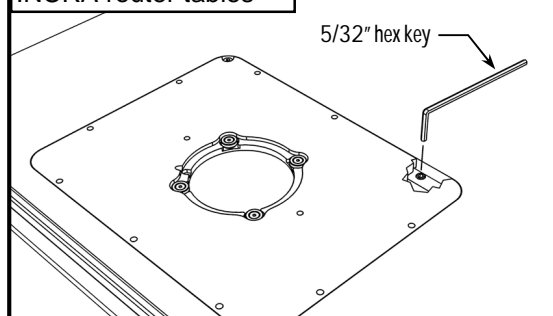

Fig. 3A Level plate
First install the (10) 1/4-20 x 3/8 socket set screws in the plate. Then, using the 1/8" hex key, adjust all (10) of these set screws to level the plate flush with the top surface of the router table, **Fig. 3A**.